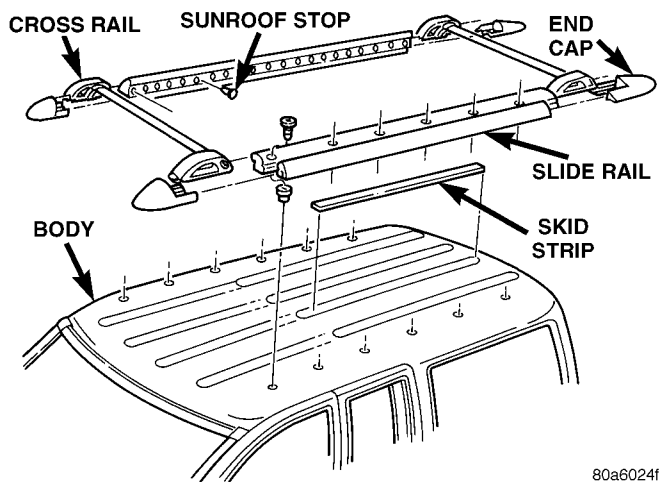

Fig. 73 Luggage Rack
- (1) Remove slide rail screws (Fig. 73).
- (2) Remove luggage rack from vehicle roof.